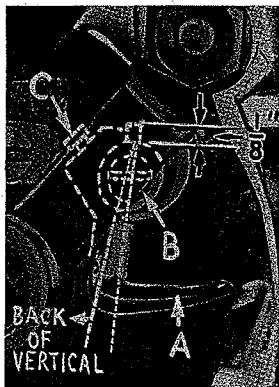

Fig. 8
Insert upper looper (A, Fig. 8) in its holder. Screw (B) holds upper looper in its holder, and permits it to be pushed in or out, or turned around its shank. Insert upper looper holder into upper looper shaft, if it is not already in place. Screw (C) on clamp holds the upper looper holder in the shaft. Locate upper looper in its holder so that the shank extends $1/8$ inch beyond holder.
When the upper looper is at the right end of its stroke, upper looper holder should be set to position upper looper shank slightly back of vertical (Fig. 8).